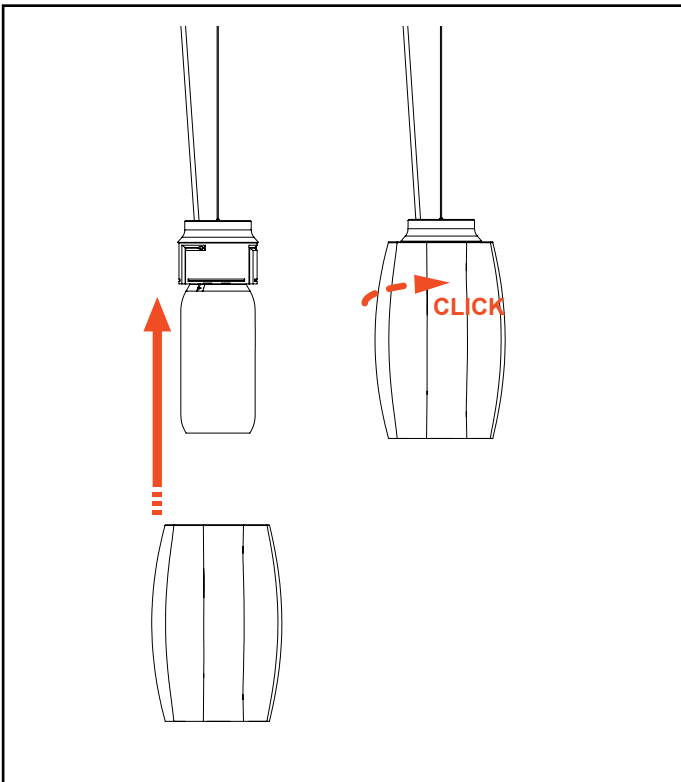

Figure 16
4. Install new shade over light engine/diffuser subassembly by inserting into grooves and twisting to lock in place. (Figure 16)